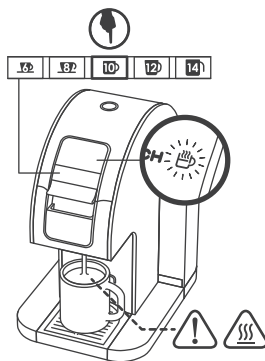

Fig. 5
CAUTION: Extremely Hot Water! (Fig. 5)
8. With the cover closed, press the 10 oz Button to start the brewing cycle. (Fig. 5) The brewing indicating light on the upper right corner will stay ON while the brewer is warming up. Note that the brewer will pump the water to the Water Tank while warming up. This is normal and it may take up to 30 seconds to warm up from a cold start. The brewing indicating light will start to blink when the brewing cycle starts.